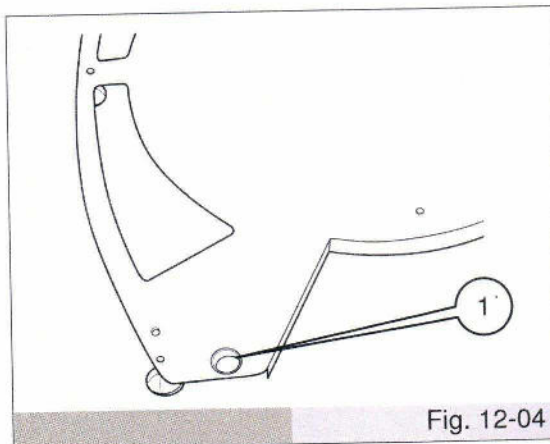

Fig. 12-04
- Before installing the door, insert the black nylon bushing (ref. 1 fig. 12-04) supplied in the accessory kit on the hole at the base.